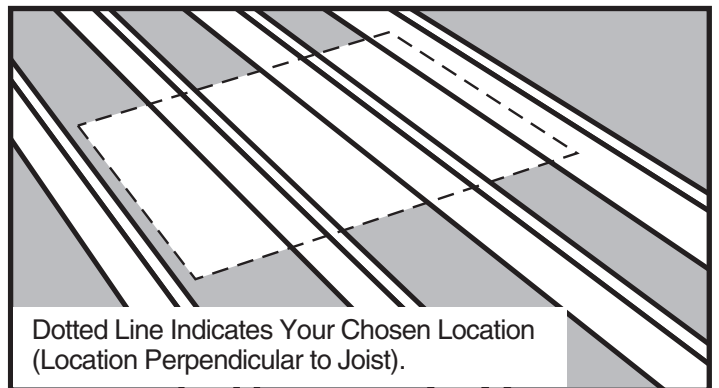

Figure 8
(B) If the chosen location is perpendicular to the joists, mark the rough opening width on top of the joists (See Figure 8). **Do not cut the joist at this mark.**